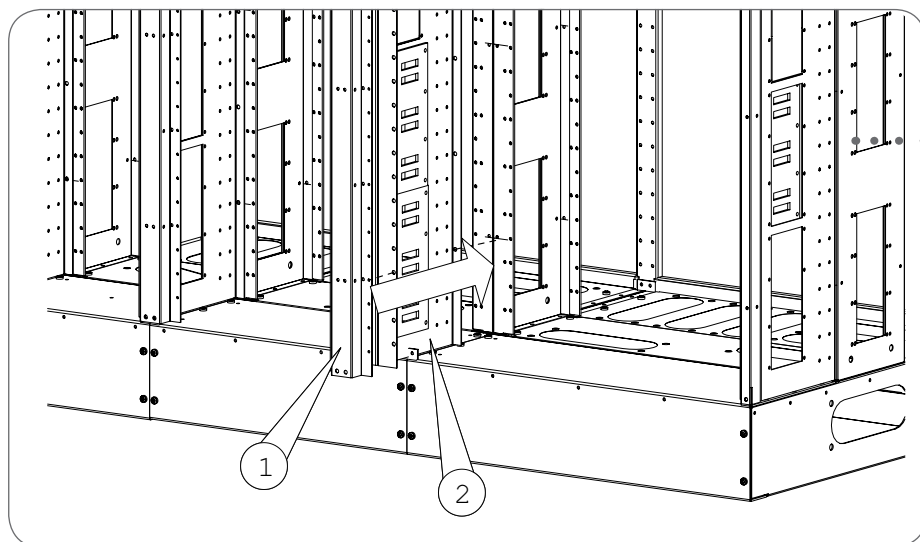

Fig. 2.19. Installing busbar insulator adapters to E-serie cell centre frames. The busbar insulator adapters are fastened to the frame plates and back profiles.
The next step is to fasten F-serie busbar insulator adapters to the cell centre frame. You need one busbar insulator adapter for each end plate of base and two for each divider of base, Fig. 2.19. It is best to fix busbar insulator pairs (2) together and fit them with busbar insulators on an assembly table before installing the busbar insulator adapters into the cell centre frame. In the cell centre frame the busbar insulator adapters are fastened to the frame plates and back profiles (1).